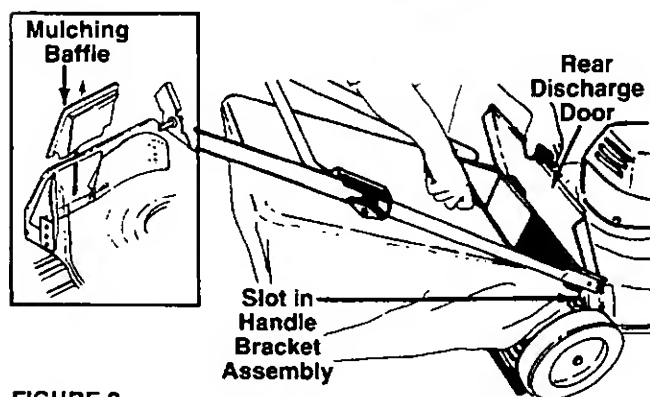

FIGURE 2.
1. Lift the rear discharge door on the mower. Remove the mulching baffle. See figure 2, inset.
2. Place the hooks on the grass catcher into the slots in the handle bracket assemblies. See figure 2. Release the rear discharge door.